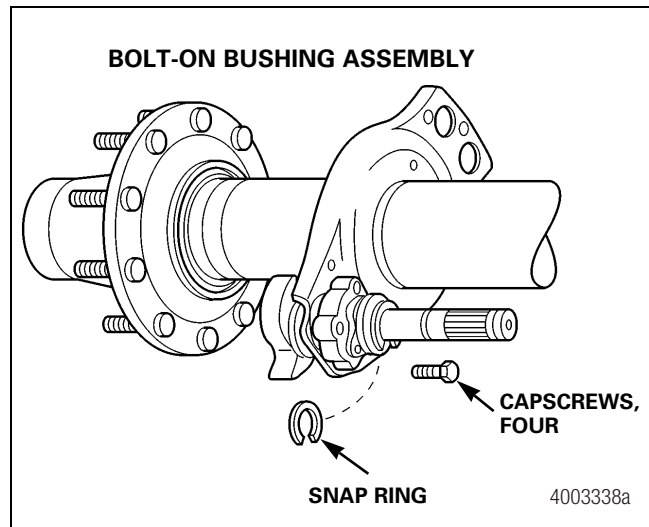

Figure 12.38
2. Remove the snap ring at the inboard side of the bushing and the four capscrews from the bushing. Figure 12.38.